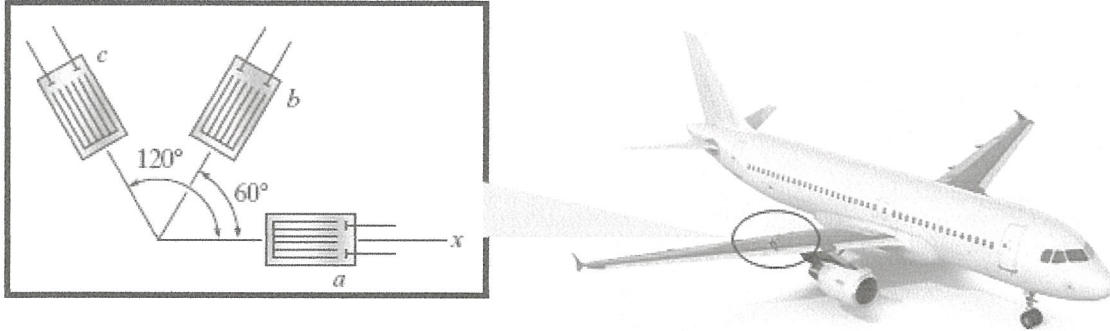

Figure Q1(b)
- (b) The 60° strain rosette is mounted on the aircraft A320 wing as shown in **Figure Q1(b)**. Due to the loadings during flight test, the readings from the gauges give $\varepsilon_a = 60(10^{-6})$, $\varepsilon_b = 135(10^{-6})$ and $\varepsilon_c = 264(10^{-6})$. Determine: